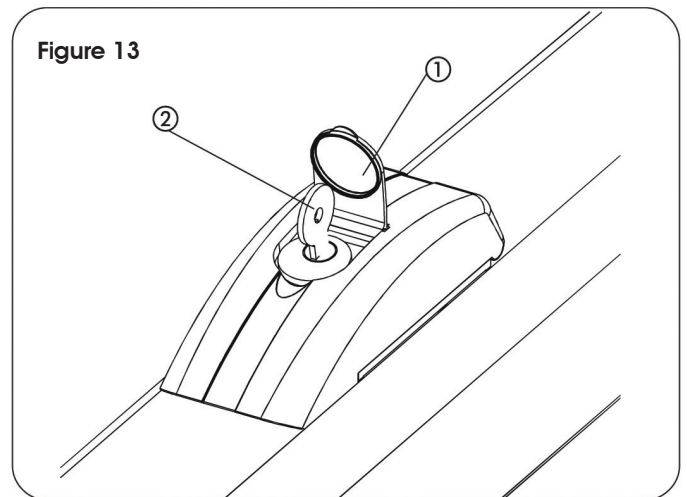
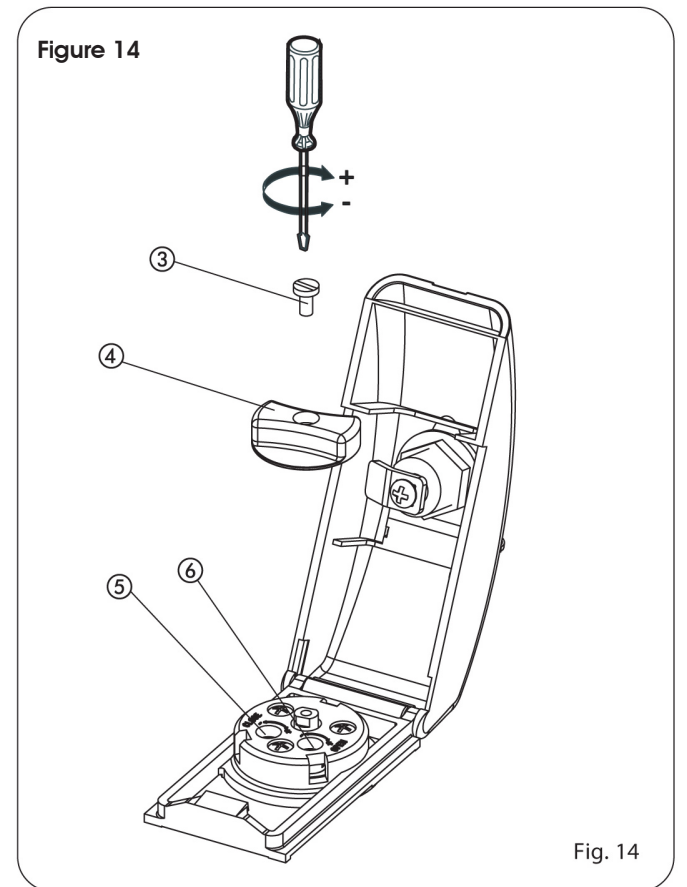

Figure 13
Fig. 14
- Lift the protective cap (Fig. 13, Ref. 1) and insert the supplied key (Fig. 13, Ref. 2).
- Turn the key 90° clockwise to open the cover.
- Lift the cover (Fig. 14).
- Remove the screw (Fig. 14, Ref. 3) which secures the knob and then remove the knob (Fig. 14, Ref. 4).
- Locate the force adjustment screws (By-Pass) on the operator (Fig. 14, Ref. 5 and 6) .
- When you have finished making adjustments, re-position the knob (Fig. 14, Ref. 4) and tighten the screw (Fig. 14, Ref. 3).